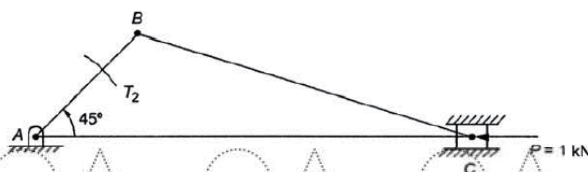

Figure 1
3. A slider-crank mechanism shown in figure 1 is subjected to piston load of 1 kN, $AB = 250$ mm, $BC = 600$ mm. Determine the input torque to link AB for the static equilibrium of the mechanism. Use analytical method. [10]